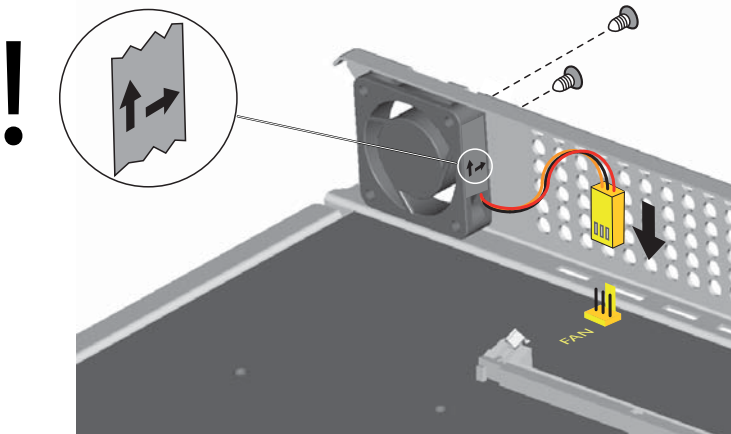

Fig. 17 Installing the fan in Mitel 430
3. Use the two screws to fit the fan to the inside of the housing. Take note of the arrows on the fan. They indicate the direction of rotation and the air flow. The air must flow out of the housing of the communication server (see Fig. 17).